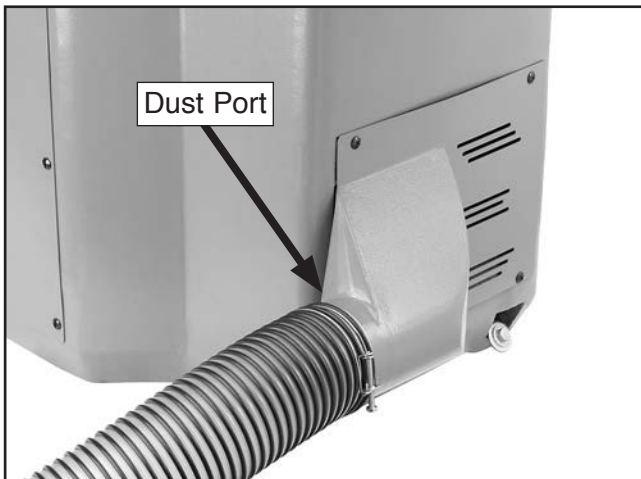

Figure 26. Dust hose attached to dust port.
1. Fit a 5" dust hose over the dust port, as shown in **Figure 26**, then secure it in place with a hose clamp.